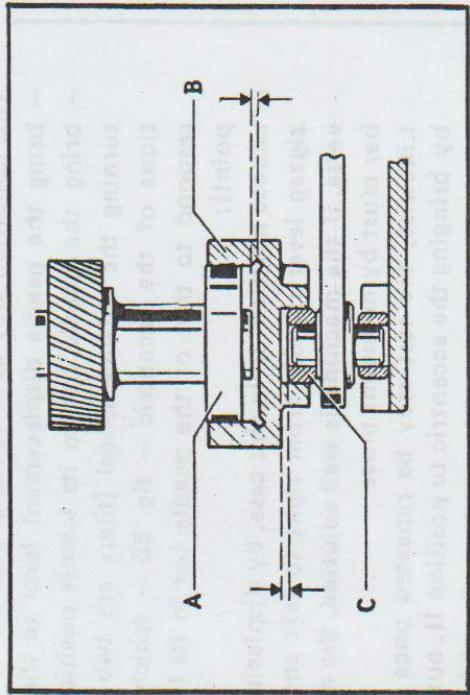

Fig. 55
- divide the play between sector C (fig. 55) and lower race and between three-lobe eccentric A and the upper race of needle displacing lever group B;